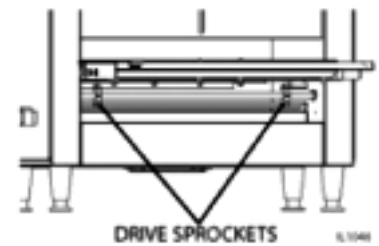

Fig 3. Conveyor Drive Sprockets
drive sprockets, (see Figure 3).
6. Reinstall conveyor belt by first laying the belt along the bottom of the oven cavity making sure the hooks on the sides are facing the inside and ends of the hooks will be pointing away from the direction of the belt so not to catch on any internal components once put back into operating. Also, being sure to properly align the belt over the conveyor drive sprockets shown in Fig 3.